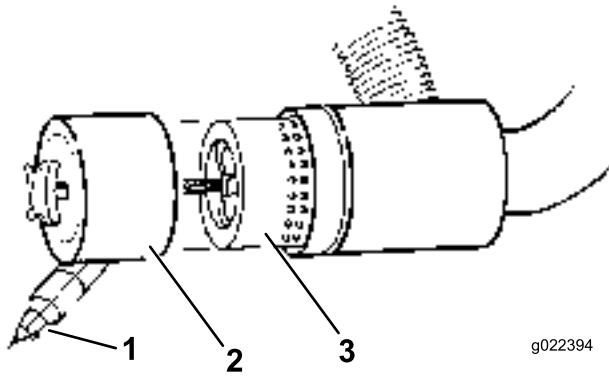

Figure 48
3. Remove and replace the filter (Figure 48). Cleaning of the used element is not recommended due to the possibility of damage to the filter media.